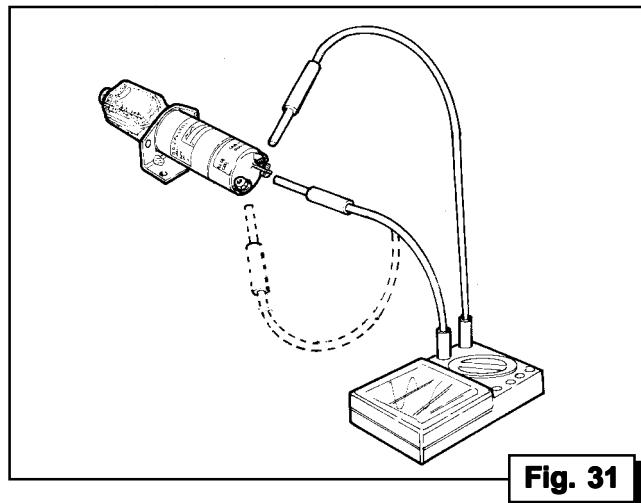

Fig. 31
- Collegare i cavi dai due terminali fast-on (Fig. 31)
- Disconnect the two wires from the fast-on terminals (Fig. 31)